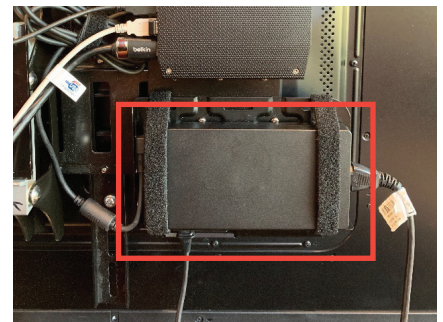

Figure 12 - Mounted computer and power supply
- Step 14** Secure the computer power supply using the Velcro straps as shown in Figure 12.